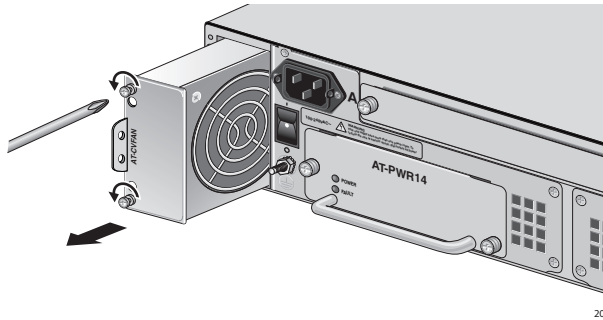
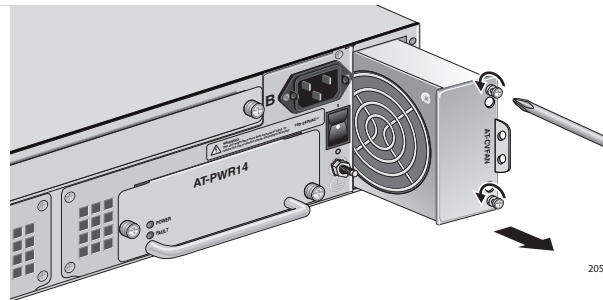

Figure 60. Removing an AT-CVFAN Module from Fan Slot A
Figure 61. Removing an AT-CVFAN Module from Fan Slot B
3. Pull the loosened screws to slide the fan out of the chassis, as shown in Figure 60 or Figure 61.